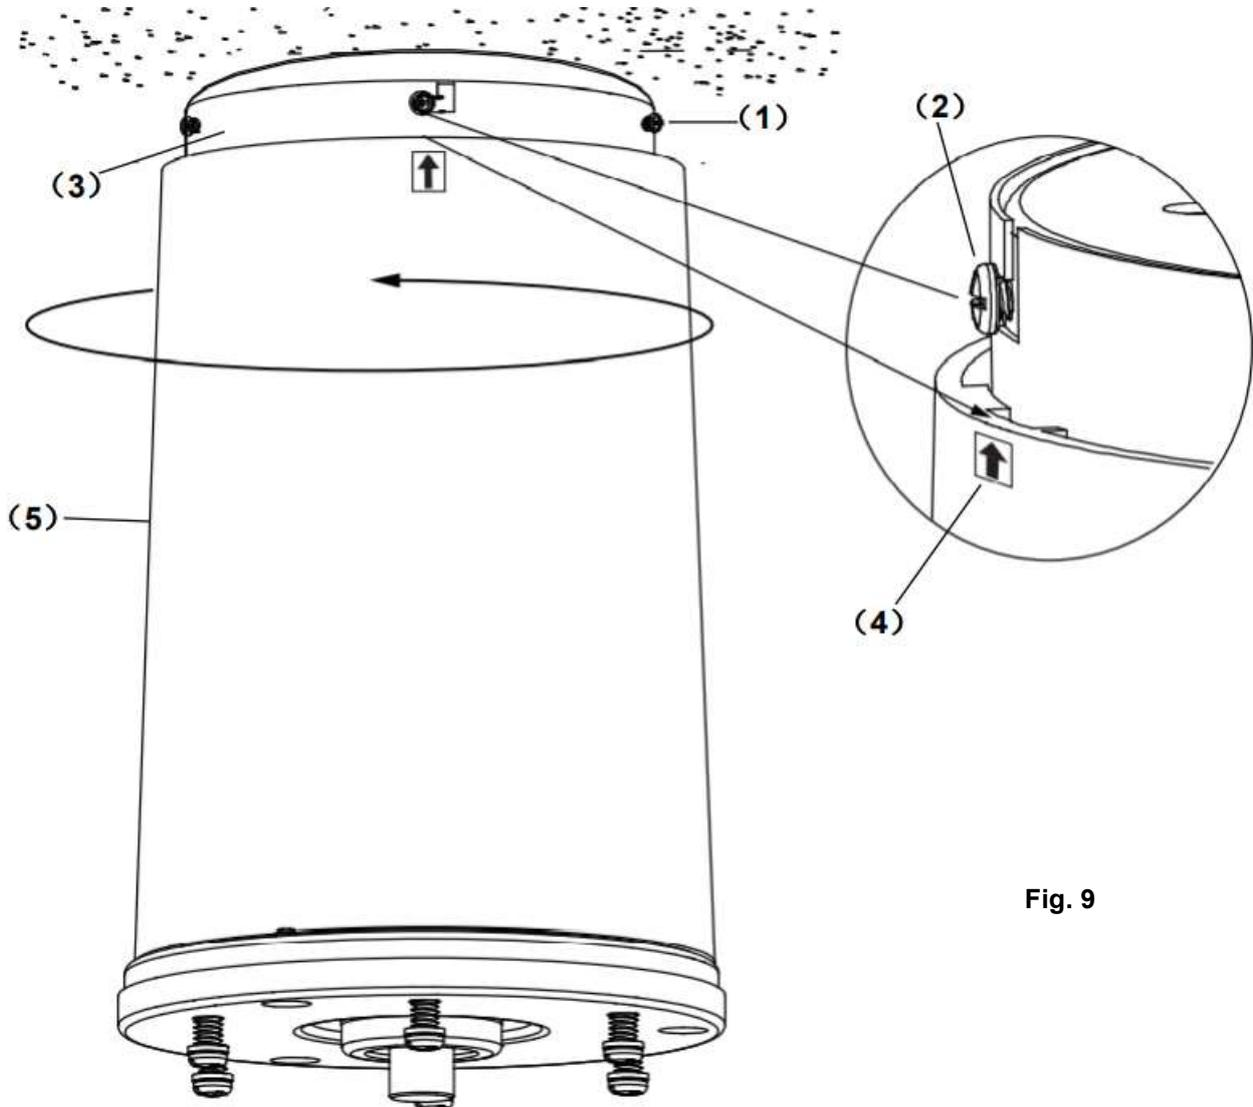

Fig. 9
- Align the arrow mark (4) on the hook surface of the motor housing (5) up to the screws (2) of hanging canopy (3). (Fig.9)
- Finally attach the motor housing (5) to the mounting bracket, secure it by pushing the hooks of the motor housing into the slot holes of the hanging canopy and turn it anti clockwise. (Fig.9)